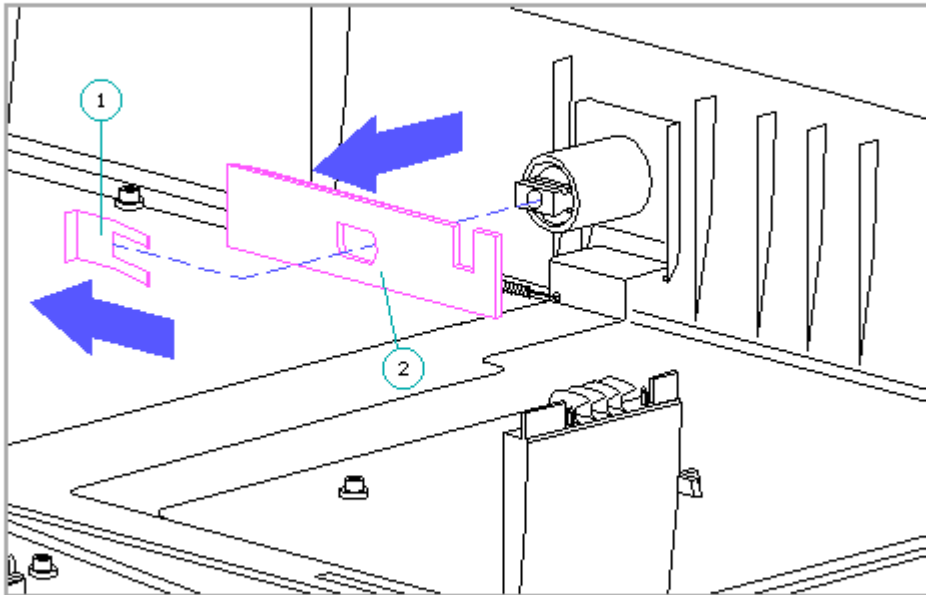

Figure 9-4. Removing the Pawl
2. Remove the retaining clip [1] that fastens the pawl [2] to the keylock barrel (Figure 9-4).
3. Remove the pawl (Figure 9-4).